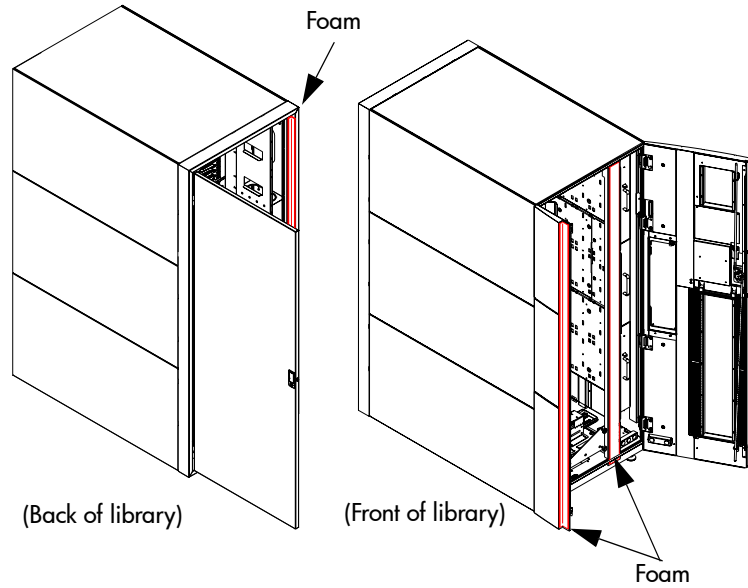

Figure 41: Adding the shipping foam inside the library
10. From the front of the library, add the foam to the Y-axis cover plate, to the left front door, and also to the back door frame (see Figure 41).